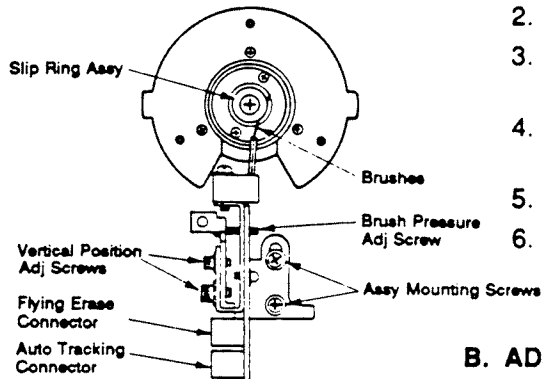
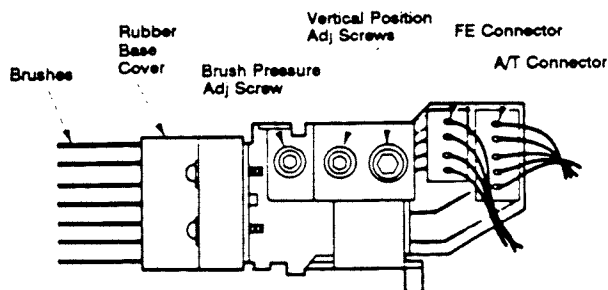

FIG. 1
FIG. 4
3. Remove the 2 Assy. mount screws (Fig. 1) & carefully remove the brush Assy.
2. Adjust the brush pressure. The rubber covered base of the brushes should form a straight line with the center of the top of the slip ring Assy. As shown in Fig. 1. Refer to Fig. 4 for adjustment screw locations.